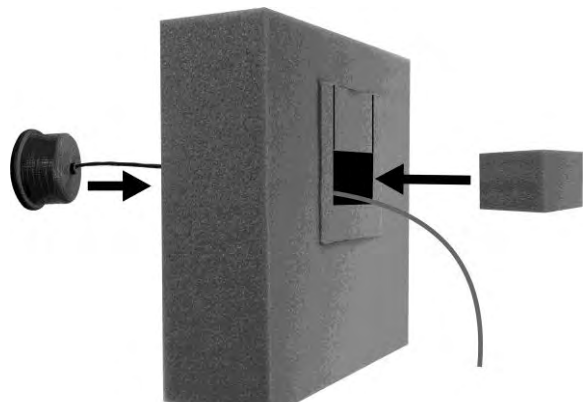

Figure 17. Placement of DM5 Microphone and foam in the foam enclosure
- Remove the small portion of the provided foam microphone enclosure, resulting in the two pieces of foam shown in Figure 17.
- Insert the DM5 Microphone cable through the hole in the foam enclosure, and place the microphone into the hole as shown in Figure 17.
- Insert the removed piece of foam back into the hole in the foam enclosure, to fit snugly against the back of the microphone, as shown in Figure 17.